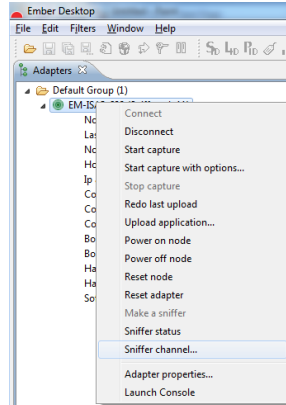

Figure 20. Selecting Sniffer Channel within Ember Desktop
3. Choose which Channel you would like to sniff using selection, as shown in Figure 20 and 21.